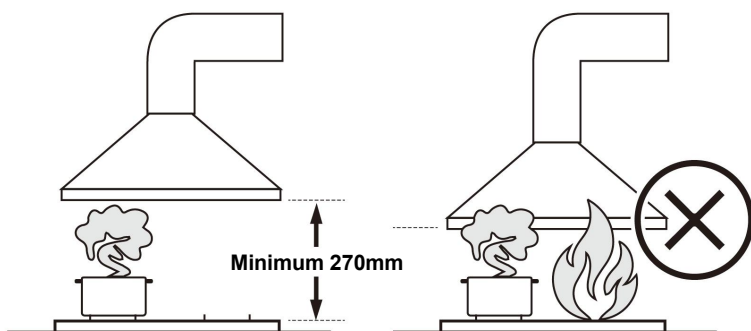

Fig. 1
- The extractor hood can be installed over gas or electric cook top. The recommended minimum installation height is as shown in Fig. 1.